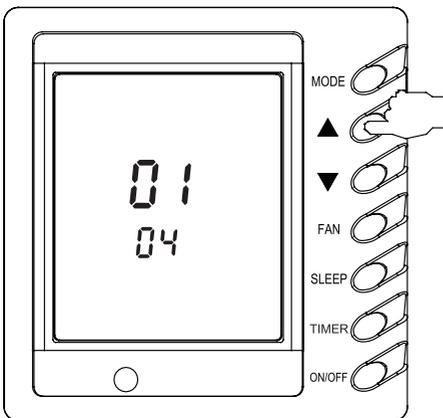

Fig.22
- (4) Under heating mode, select air inlet's temp sensor or under other modes select wired controller's temp sensor and the setting temp area displays 04, as shown in Fig.22.